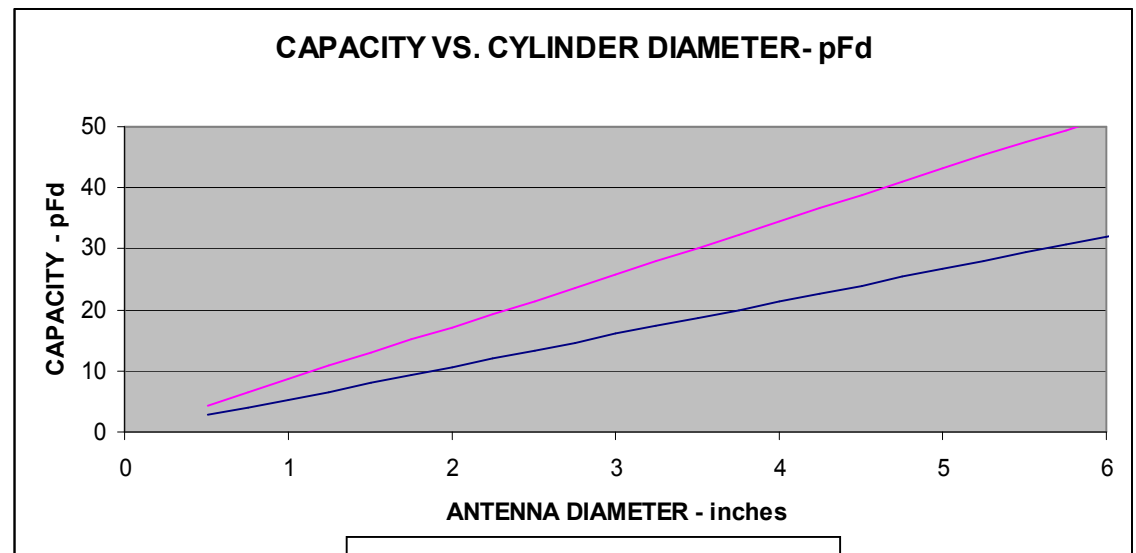

FIGURE 9 - CAPACITY VS
Bandwidth: After the desired radiation pattern has been selected, the next step in the design process is to select the desired bandwidth. By using the equation for capacity between cylinders and assuming that the Radiation Resistance has a value of 120 ohms, the diameter can be readily chosen. To assist in this process the chart in Figure 9 specifies the cylinder capacity as a function of the cylinder diameter. Two (2) curves are included. The upper curve is for an L/D ratio of 12 while the lower curve is for an L/D ratio of 6.